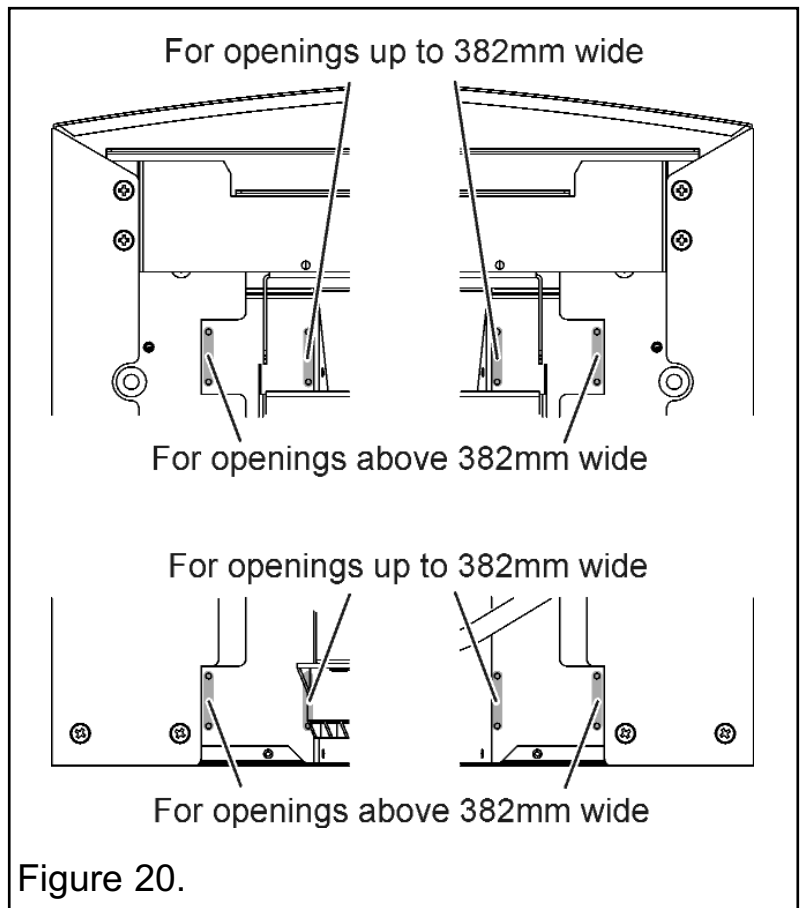
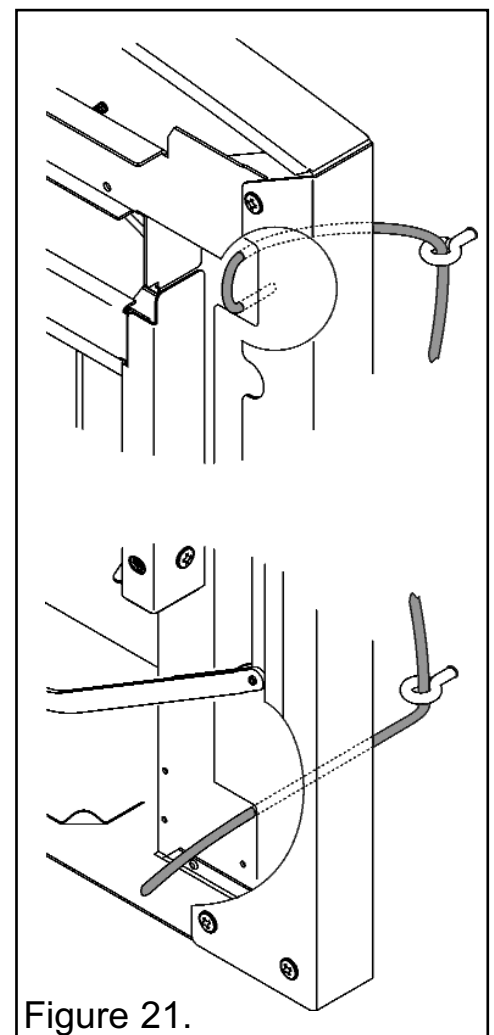

Figure 20.
Figure 21.
**5.** The fire has eight pairs of small holes for cable securing, only four will be used. For openings up to 382mm wide use the inner set of holes. For openings above this use the outer holes (See figure 20). Once the upper pairs of holes are selected, feed approximately 100mm of cable from the rear of the fire through the upper hole, then feed approximately 20mm of cable into the lower hole. Gently pull the upper cable from the rear of the fire to lock into place (See figure 21). Repeat this on both sides.
**6.** Thread the cables through the eyebolts in the rear wall. Return the cables through the selected hole near the bottom of the convection box (See figure 21).